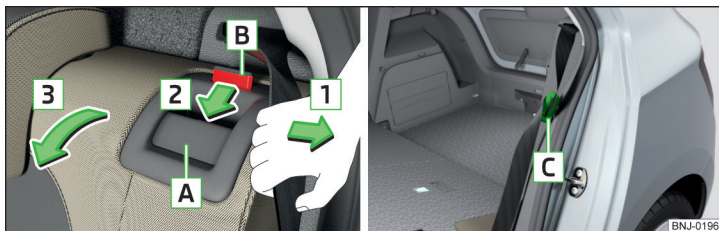

Fig. 70 Fold seat backrest forwards / standby position of the seat belt
- Pull the outer seat belt to the side panel in the direction of arrow **1** » Fig. 70.
The belt tongue of the outer seat belts **C** can be inserted into the side panel. Ready position » Fig. 70.